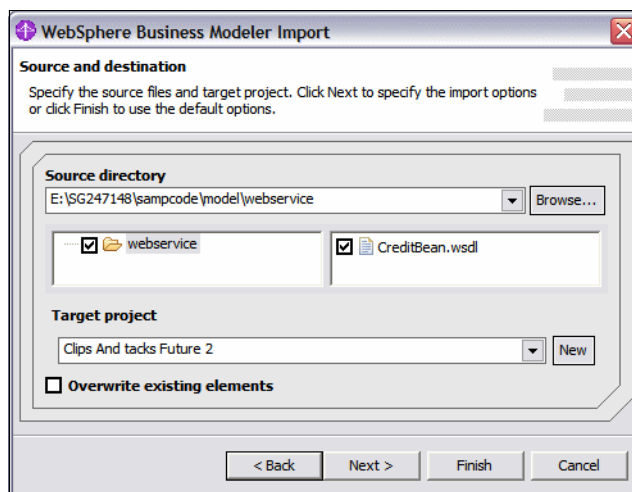

Figure 15-16 WSDL import
- ▶ Click *Browse* and navigate to the folder of the WSDL file. Select the folder, verify the target project, and click *Finish* (Figure 15-16).